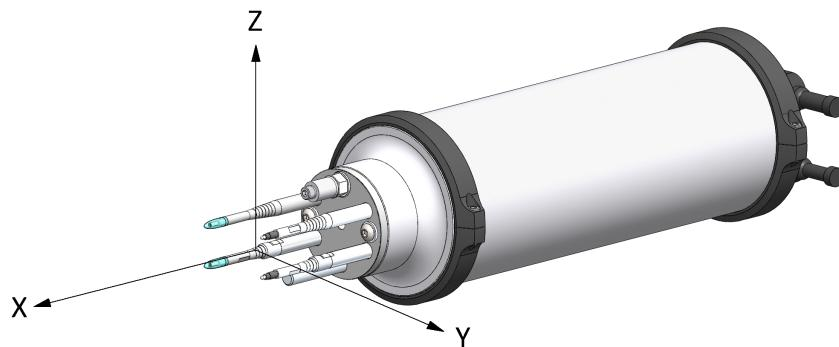
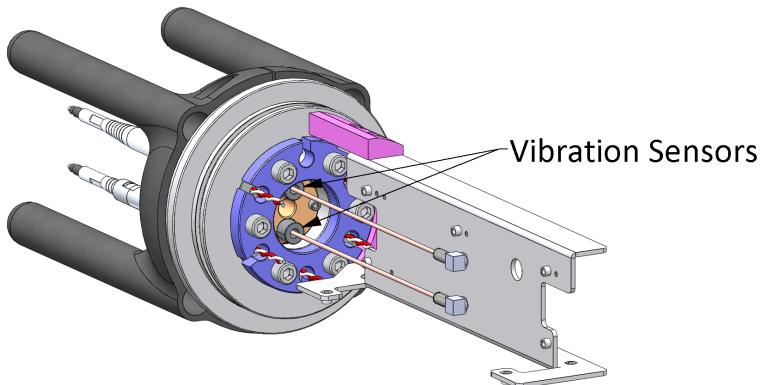

Figure 2: MicroRider-1000-G Coordinate System
Figure 5: Vibration Sensors
The coordinate system of the MicroRider-1000-G is as follows (Figure 2):
Two vibration sensors are installed on a mounting block that is located inside the instrument (Figure 5). Each vibration sensor is a piezo-accelerometer that is fixed in position and cannot be adjusted or removed. The vibration sensors are alternating current (AC) sensors and are treated like shear probe channels. Their primary purpose is to sense the vibrations of the instrument in the y- and z-directions (Figure 2). Common-mode vibrations measured by both the vibration sensors and the shear probes (such as vibrations induced from the instrument) can be removed from the shear signals during post-processing of the data.
There is a 2-axis tilt sensor installed on the power supply board that is located inside the instrument. The sensor measures the DC and low-frequency response to tilting and has an accuracy of $\pm 0.1^\circ$ over the oceanic temperature range. For the MicroRider-1000-G, the inclinometer measures the rotation about the x-axis (roll) and y-axis (pitch), where the axes are defined in Figure 2.